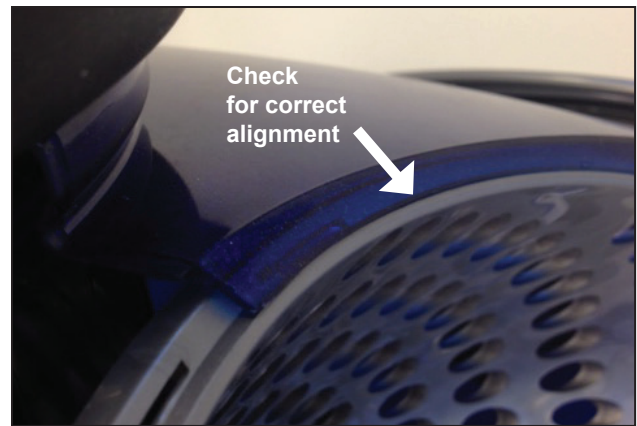

Figure 21. Rear housing and top housing aligned
7. Guide the water management system with rear housing canopy attached into the feed pipe tube. Push in firmly aligning the notches of the rear housing into the lip of the top housing. Check that the top housing lip is correctly aligned over the rear housing (Figure 21).